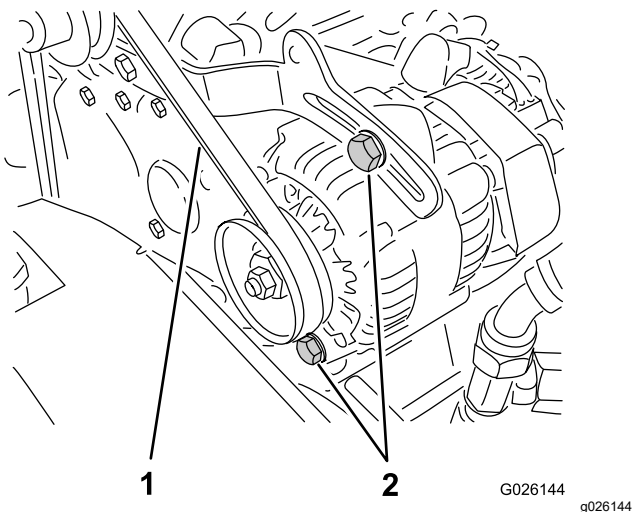

Figure 62
2. Check the tension by pressing the belt at mid span between the crankshaft and alternator pulleys with 10 kg (22 lb) of force (Figure 62).
- A. Loosen the 2 alternator-mounting bolts (Figure 62).
- B. Using a pry bar, rotate the alternator until the proper belt tension is attained, then tighten the mounting bolts (Figure 62).